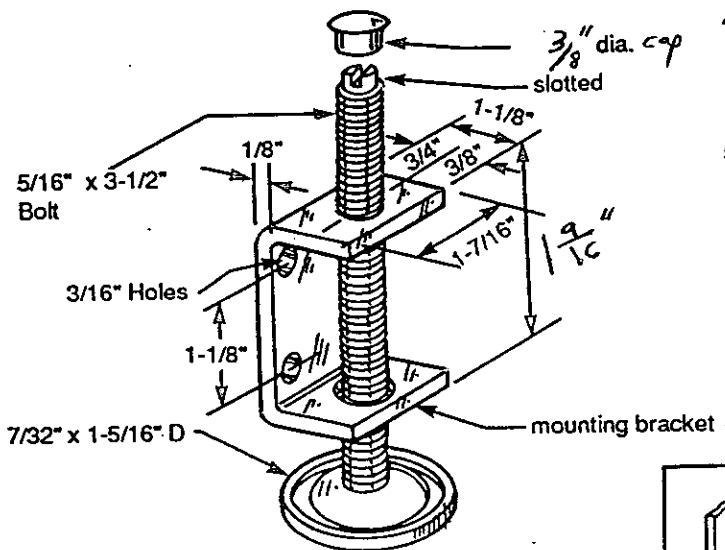

Fig.2
1. Determine location of leveler glides. Generally 4 are installed at the lower 4 inside corners of case. (See Fig. 2, 3 and 4)